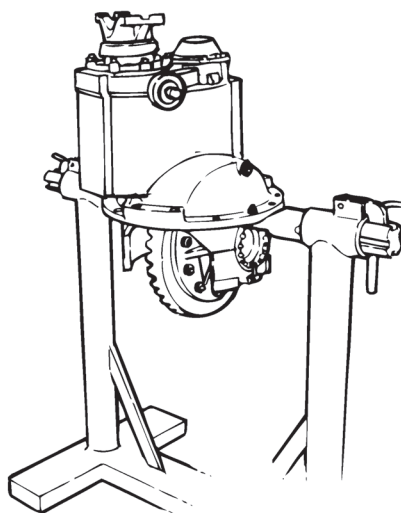

Figure 3.10
8. Use a lifting tool to lift the differential by the input folk or flange and place the assembly in a repair stand. Do not lift by hand. See the Section 10 to make a differential repair to differential. Figure 3.10.